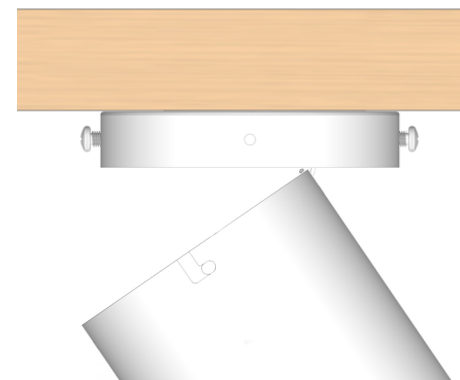

Fig. 6.1
6.1 Carefully lift the fan-motor assembly and hang it using the hook of the mounting plate. Securely suspend the motor assembly by using one of the round holes at the outer rim of the motor housing as shown in Fig. 6.1.